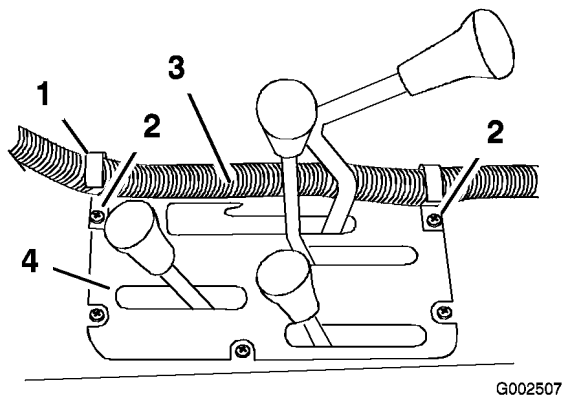

Figure 23
6. Install two J-clips in the center console at the points located in Figure 23 using the existing screws.